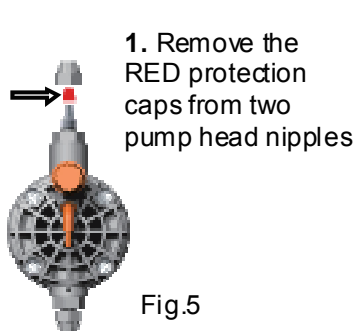

Fig.5
- before connecting delivery hose to injection point, prime the pump following the sequence shown in fig.5,6,7.
Fig.5,6,7 the discharge nipple is always placed at the upper part of the pump head. The suction nipple (to connect hose to foot valve / filter placed into chemical tank) is located at the lower part of the pump head.